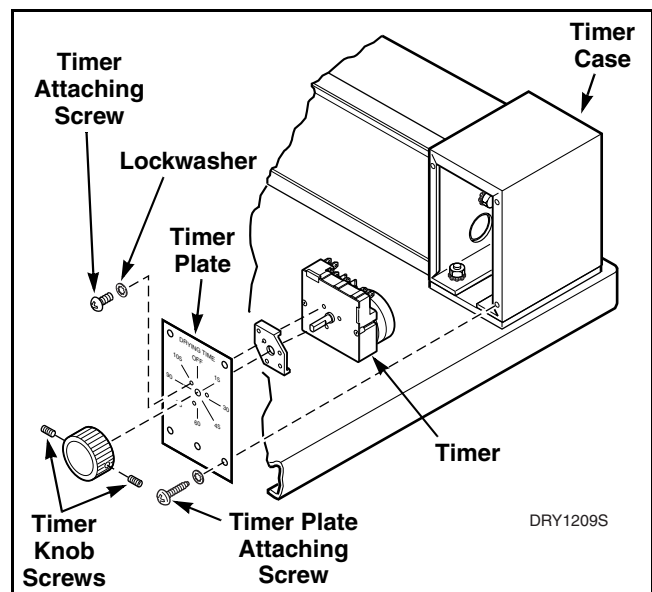

Figure 4
- (1) Refer to *Figure 4* for timer removal.
- (2) Loosen setscrew holding timer knob to timer shaft and remove knob.
- (3) Remove four screws and lockwashers holding timer and plate to timer case.